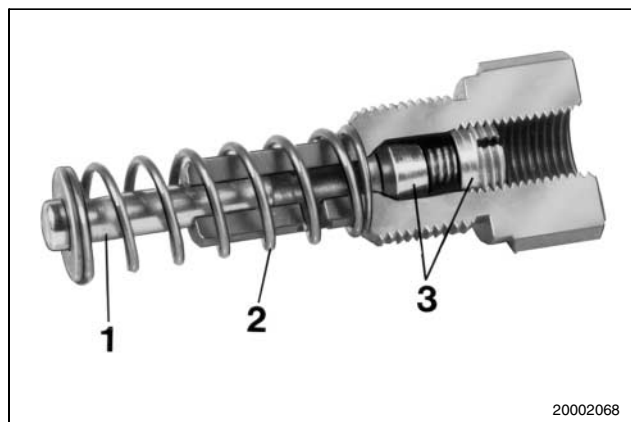

Fig. 6 Pump element
- piston 2 dispenses the lubricant to the connected lubrication points via the metering device. Refer to Fig. 6.